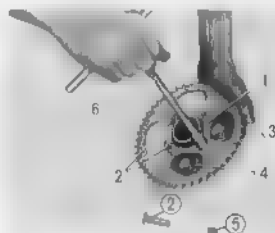

Fig. 4.96 Removing sprocket
8. Draw out the rear axle sleeve from the final driven flange, unlock the 8 mm tongue washer (1) and remove the driven sprocket setting bolt (2). Disassemble the final driven sprocket (3) and final drive flange (4). (Fig. 4.96)